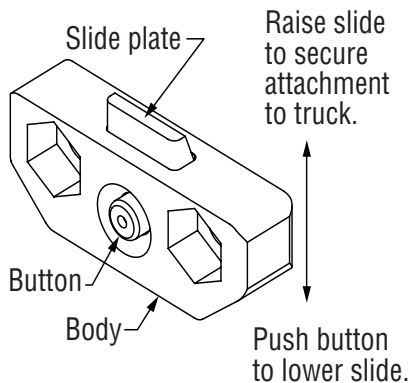

Figure 4-1, Quick Hook
2. Slightly raise the truck carriage to remove the bottom mounting hooks. If the attachment is equipped with quick hooks, simply press the slide plate release button and drop the slide plate down. (Figure 4-1)